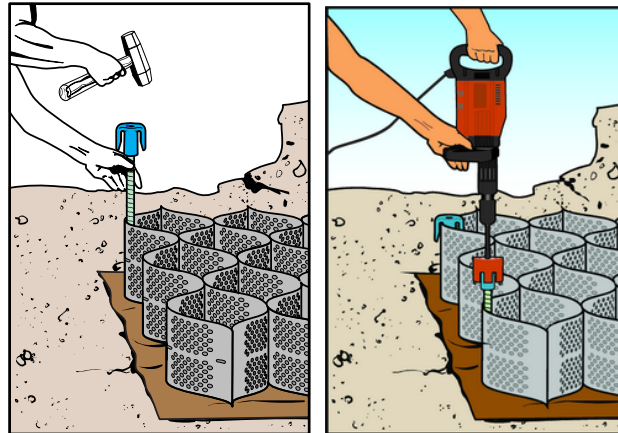

Figure 5 ATRA® Anchor Installation Methods
- a) ATRA® Anchors, straight stakes or J-Pins (permanent or temporary). Specialized driving tools are available through Presto Geosystems' authorized distributors and representatives to speed driving of ATRA® anchors. See Figure 5.